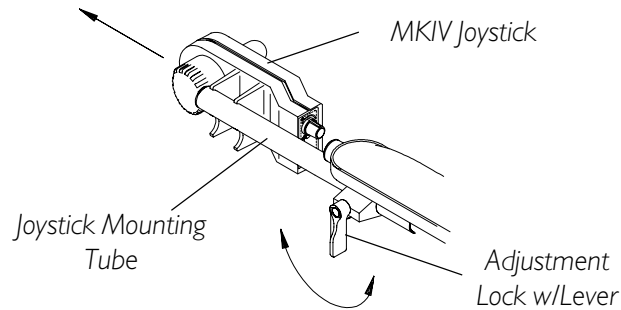

FIGURE 1 - PREPARING MKIV JOYSTICK FOR USE
PREPARING MKIV JOYSTICK FOR USE (FIGURE 1)
1. Turn the adjustment lock lever to release the adjustment lock from joystick mounting tube (**tube**) (FIGURE 1).
3. Remove the three (3) hex screws that secure the joystick mounting bracket (**bracket**), threaded hole half clamp and opened hole half clamp to the arm tube.
5. While holding the two (2) half clamps, install the front hex screw into the two (2) half clamps and securely tighten.
6. Line up the mounting holes of the joystick mounting bracket with the mounting holes in the two (2) half clamps.
7. Secure the joystick mounting bracket to the two (2) half clamps with the remaining two (2) hex screws.